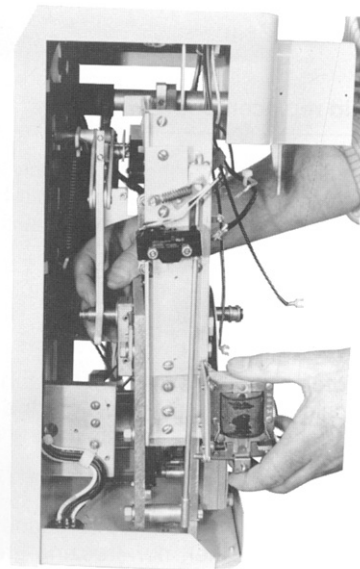

Figure 27.
1. Carefully place the speed reducer assembly into position within the actuator housing. Slide the toggle assembly, spacer and lower spring bracket onto the crank-shaft assembly, see Figure 27.